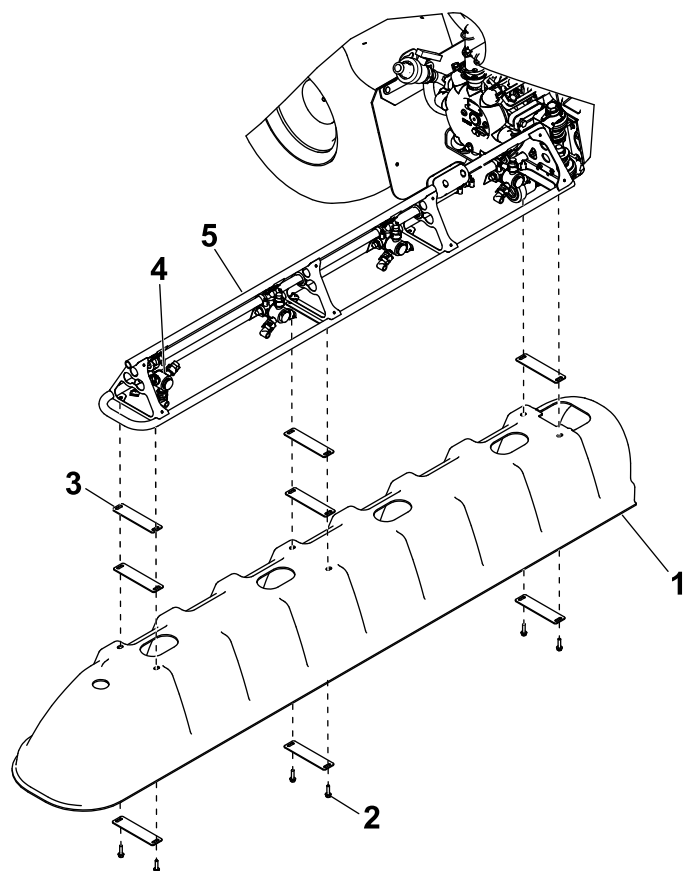

Figure 10
- Install 1 of the wing-boom covers (Figure 10) using 8 washer plates, 6 hex-head bolts (5/16 x 1-1/4 inch), and 6 U-nuts.
Note: Install additional washer plates between the outer-boom covers and the truss frame of the outer-boom section to add clearance between the covers as needed. Refer to Figure 10.